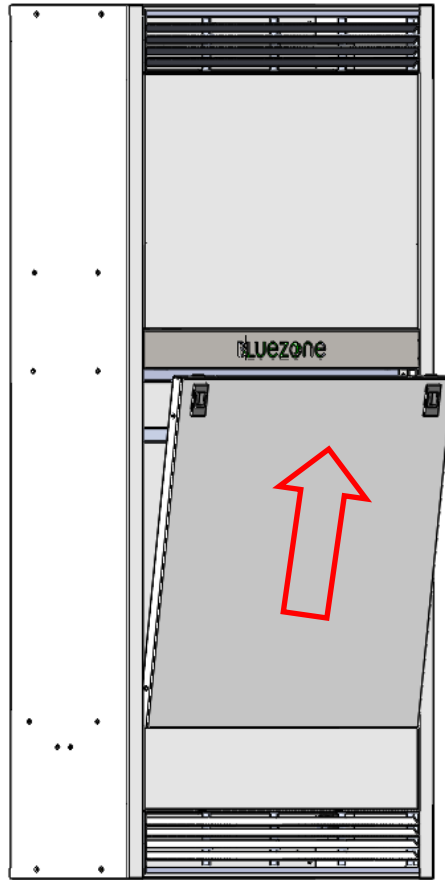

Figure 17: Remove Service Cover
- 3) Remove the service cover by retracting the latches and slowly pulling away from the unit, then lift the service cover upwards. See Figure 17 below.